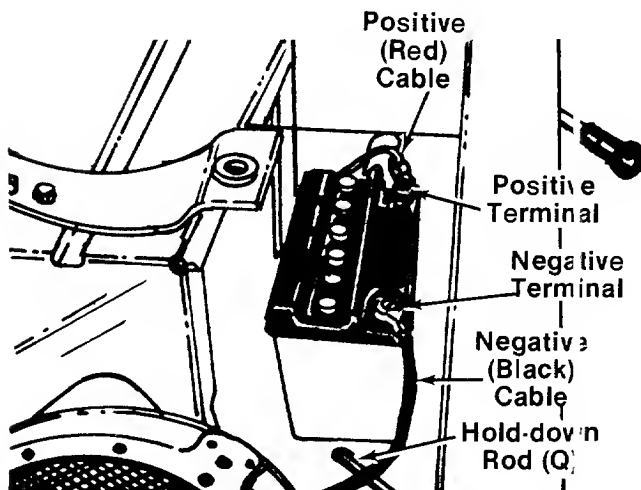

FIGURE 15.
1. Hook the battery hold-down rods into the holes in the frame. See figures 15 and 16.
2. Place the battery in the rider with the positive terminal to the front. The negative terminal goes to the rear of the unit. See figure 15.
4. Place the negative (heavy black) cable on the negative terminal. Secure with bolt, nut and lock washer provided with battery. See figure 15.